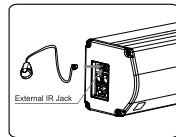

Figure 29
3. For hidden installation or IR window is being kept out by something, please take out the IR Receiver Head and plug it to the relevant hole, and then install it at the position where IR signal is available (Figure 29)